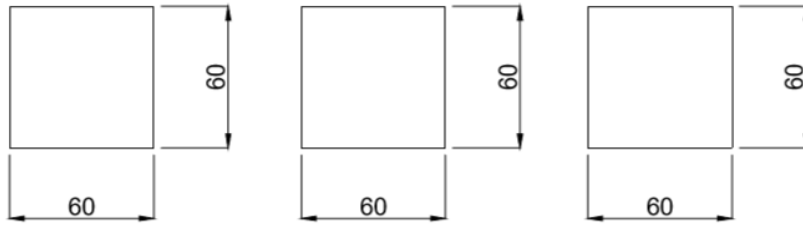

Fig 1
2. Cut the marked sheet (60 x 180 mm) into three equal pieces of 60 x 60mm as shown in fig 1.